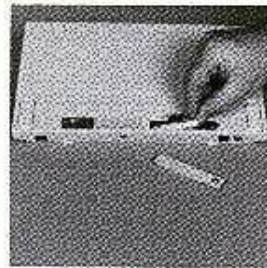

Figure 4-9
- h. Install the keyboard battery (Sanyo CR12600SE 3 volt lithium or equivalent). Be sure to align the + on the battery with the + in the opening. See Figure 4-9. Install the + side of the battery first to avoid damaging the battery connectors.